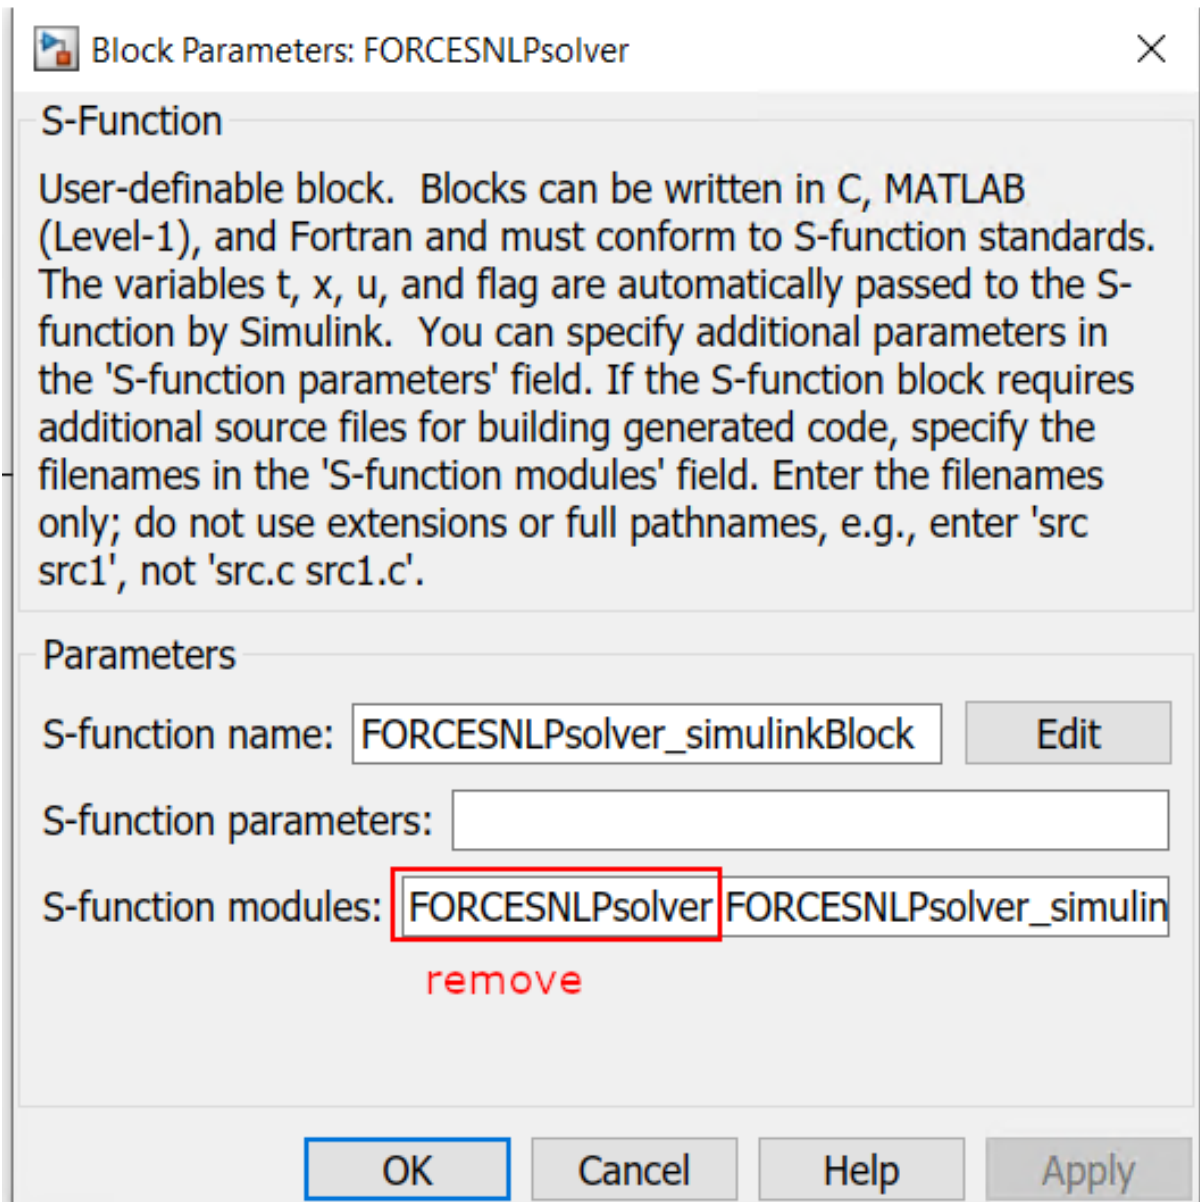

Figure 12.70: Remove the leading solver name from the S-function module.
- 14) Remove the "FORCESNLPsolver" prefix from the S-function module (see Figure 12.70).